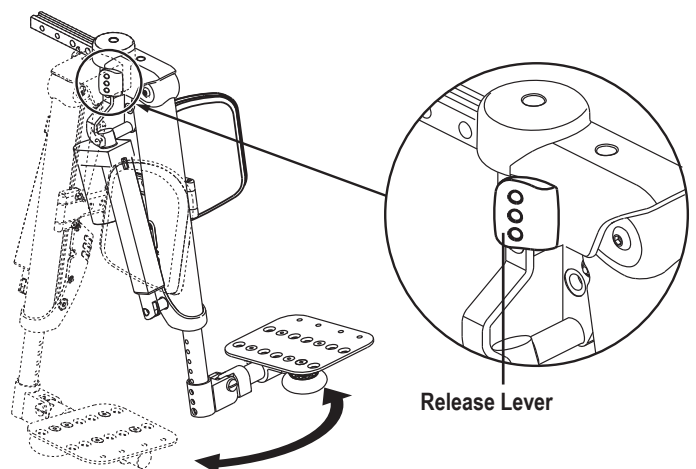

Figure 15. Swing-away Power Articulating Leg Rests
1. Push in the release lever. **See figure 15.**